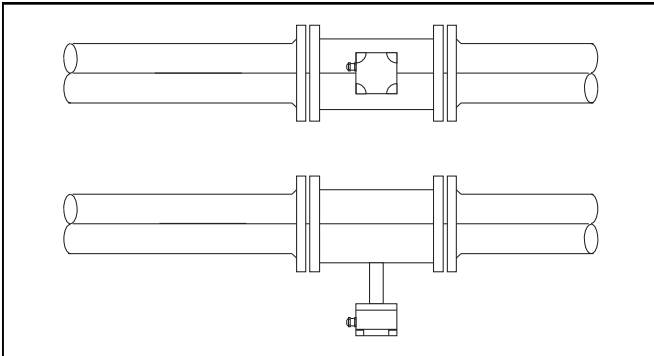

Fig. II-5
- when metering at high temperatures, the flowmeter primary is installed so that the electronic section is positioned at the side and oriented downward (Fig. II-5).